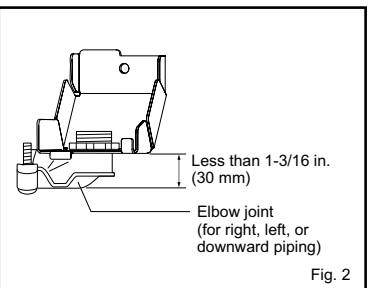

Fig. 2
- 4) Attach conduit pipe (for rear piping) / elbow joint (for right, left, or downward piping) to conduit cover with lock nut. The thread of the installed conduit pipe / elbow joint appearing inside should be less than 3/8 in. (10 mm). (Fig. 1) Elbow joint should appear less than 1-3/16 in. (30 mm) outside. (Fig. 2)
- Pull out the drain hose at the back left of the indoor unit. (Fig. 2)
- If the drain hose provided with the indoor unit is too short, connect it with a field-supplied drain hose (I). (Fig. 2)